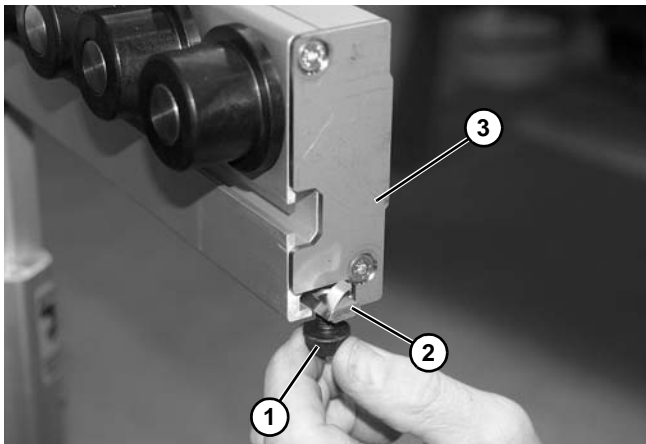

Figure 3
1. Thread screw (**Figure 3, item 1**) into slide-in nut (**Figure 3, item 2**). Repeat for a second screw and nut.
2. Insert screw and nut assemblies through end cap (**Figure 3, item 3**) and into conveyor channel. Slide one down the channel, keeping the second close to the end of the conveyor.